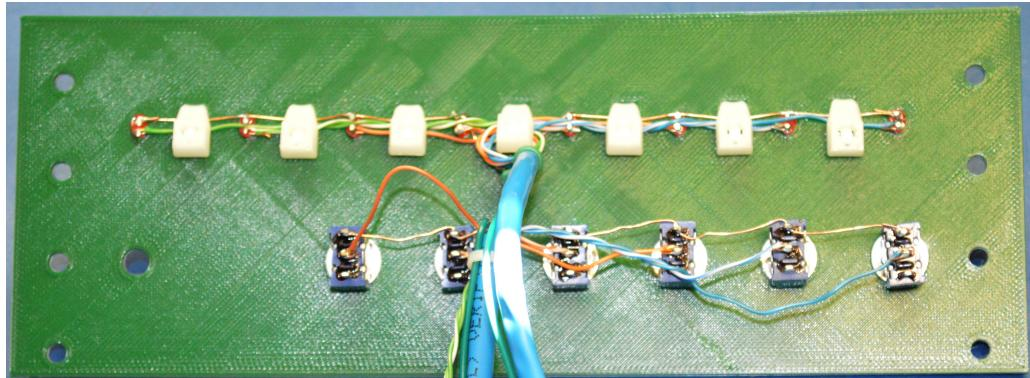

Figure 2.21: Control Panel with Switches and LEDs Installed and Wired
- Finally, install the LEDs in the panel as described in Section 2.3.5 and shown in Figure 2.21.